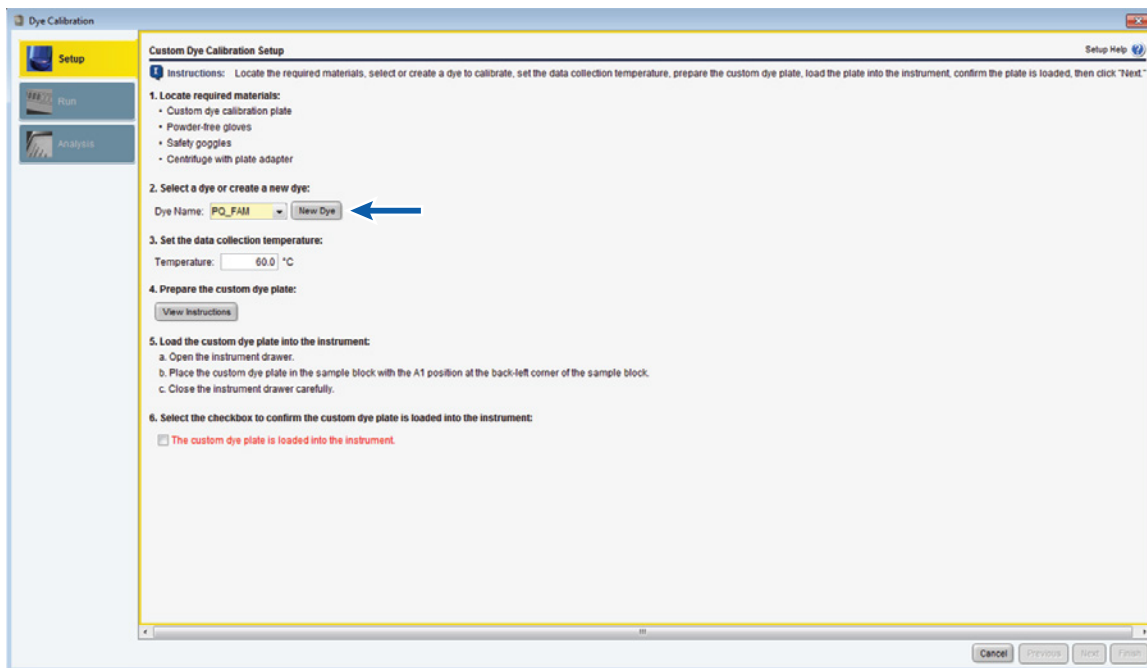

Figure 7. Calibrating a new dye.
7. In the 'Dye Calibration' window that appears, select the **New Dye** button (Figure 7).